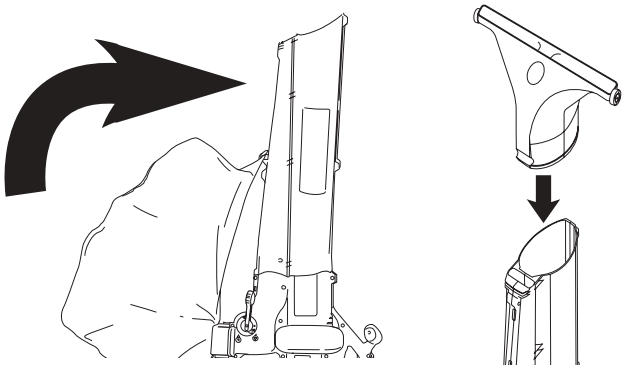

Fig. 19
1. Turn the unit so that the blower/vacuum tube openings are straight up. (Fig. 19)
2. Place the Patio Head's round opening into the round vacuum opening (Fig.19).